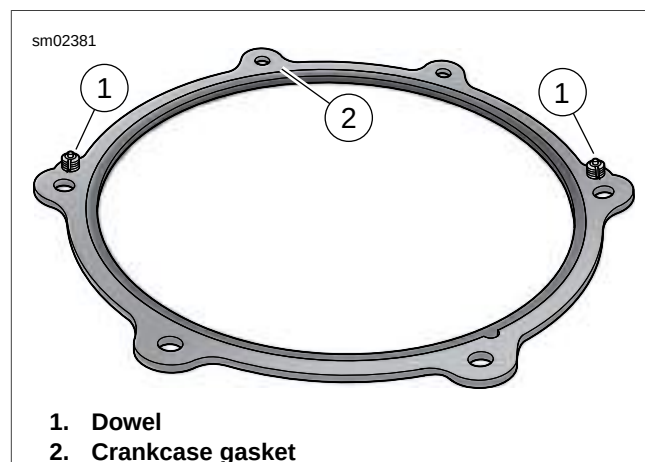

Figure 5-26. Crankcase Gasket
See Figure 5-26. In next step, be sure dowels (1) in crankcase gasket (2) engage holes in crankcase.